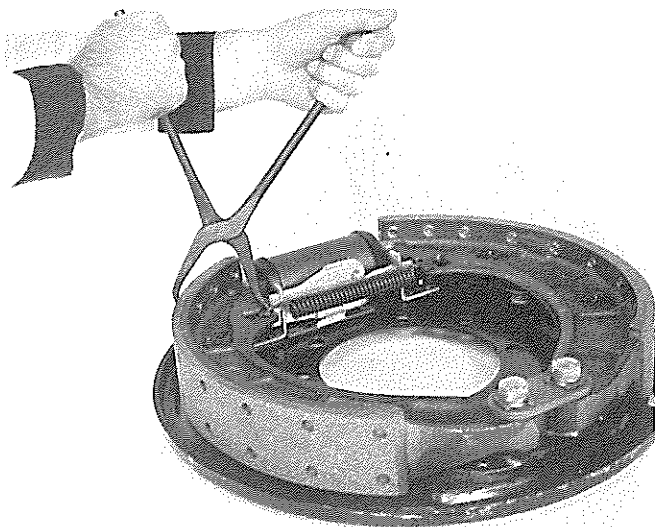

FIG. 124
6. Install brake spring with brake spring pliers (Fig. 124). Make sure wheel cylinder push rods are seated in slot of brake shoe.